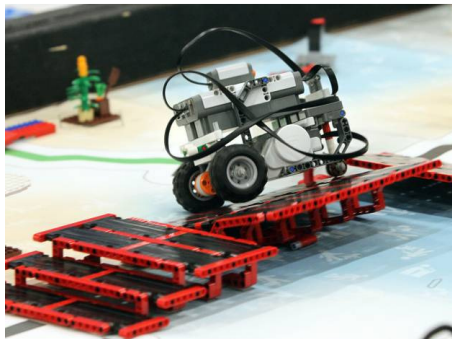

Figure 11: Robot on Bridge
You are building a Robot with a DIFFERENTIAL DRIVE (3). In many challenges, there is an obstacle that must be climbed over, or onto, such as the bridge that was featured in the 2012 Senior Solutions Challenge shown below (Fig. 11).
As you can see from the picture above (Fig. 11) a problem with a WHEELED ROBOT (4) is that each wheel only touches the mat (or an obstacle that it is climbing) on a very small part of the wheel. That means that if the wheel lifts up off the mat even just a little bit as it is climbing over an obstacle, that the wheel will spin in place and not get any traction. At best, this means that if the other wheel is still moving, that the robot will rotate uncontrollably, but at worst, it means that the robot can get "hung up" on the obstacle and the team will have to incur a "touch penalty" by retrieving the robot, thus both lowering their score and losing time from the round.